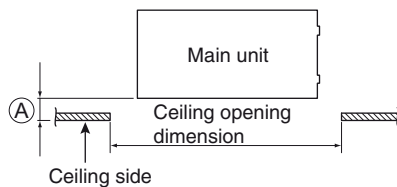

Fig. 7-1
- Never place the panel face-down. Either hang it vertically or place it on top of a projecting object. Placing it face-down will damage the surface. (Fig. 7-1)
Ⓐ must be within the range of 13 – 18 mm. (Fig. 7-1)